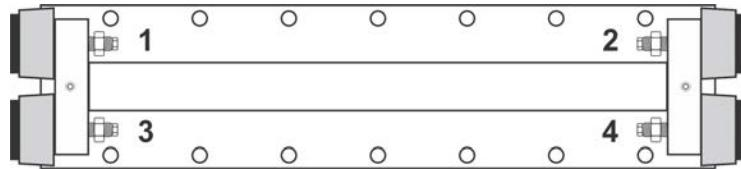

Figure 11
33. Alternately torque each buttress isolator to 50 foot-pounds using small adjustments. This is best completed with two people making equal adjustments to buttress locations 1 and 2, and then 3 and 4 at the same time. See Figure 11.